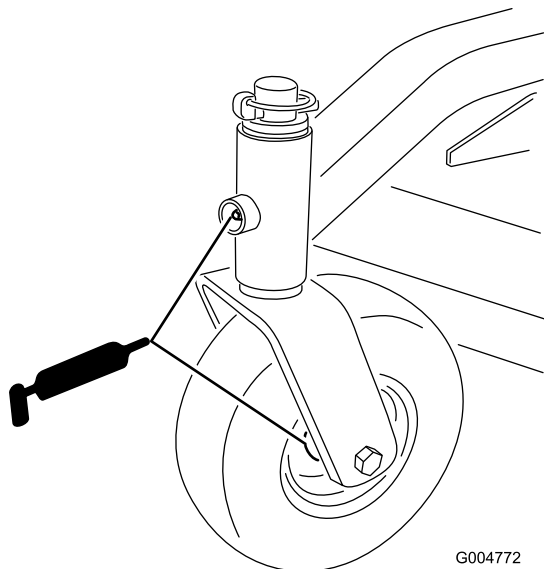

Figure 25
1. Lubricate the front caster wheel bearings and front pivots (Figure 25).
4. Remove the rear wheel grease cap. Lubricate the rear wheel bearing (Figure 25).